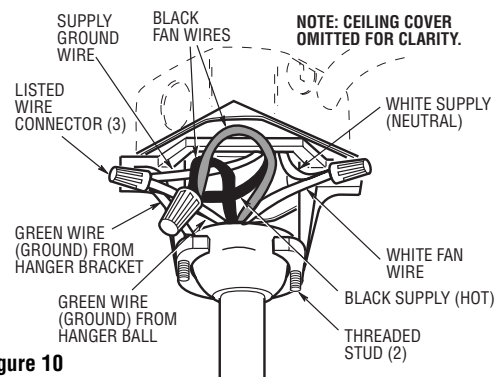
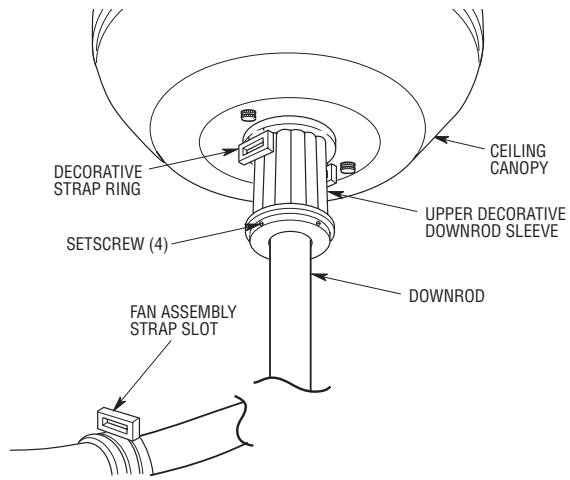

Figure 10
Figure 15
- 1. Connect the green grounding lead from the hanger ball and the green grounding lead from the hanger bracket to the grounding conductor of supply (this may be a bare wire or wire with green colored insulation). Securely connect wires with wire connectors supplied. (Figure 10.)
- 2. Securely connect the fan motor white wire to the supply white (neutral) wire using wire connector supplied (Figure 10). Securely connect the fan motor black wire to the supply black (hot) wire using wire connector supplied (Figure 15). The blue wire is for optional light kit accessory. Do not connect the blue wire to the supply black wire. Cap the blue wire with a wire connector supplied. After connections have been made, turn leads upward and carefully push leads into the outlet box, with the white and green leads on one side of the outlet box and the black and blue leads on the other side of the outlet box.
- 1. Loosen the setscrew on the upper decorative downrod sleeve and gently slide it up toward the ceiling canopy (Figure 15).
- 2. Position the top of the decorative strap ring approximately 1/4" below the knurled nuts on the canopy cover. The strap ring must not make contact with the knurled nuts to allow the fan to freely pivot on the hanger ball. Align the support strap ring so that the slots are in the same position as the slots of the strap supports on the fan assembly below (Figure 15).
- 3. Tighten the four setscrews in the upper decorative downrod sleeve to secure the decorative strap ring and upper decorative downrod sleeve to the downrod (Figure 15).